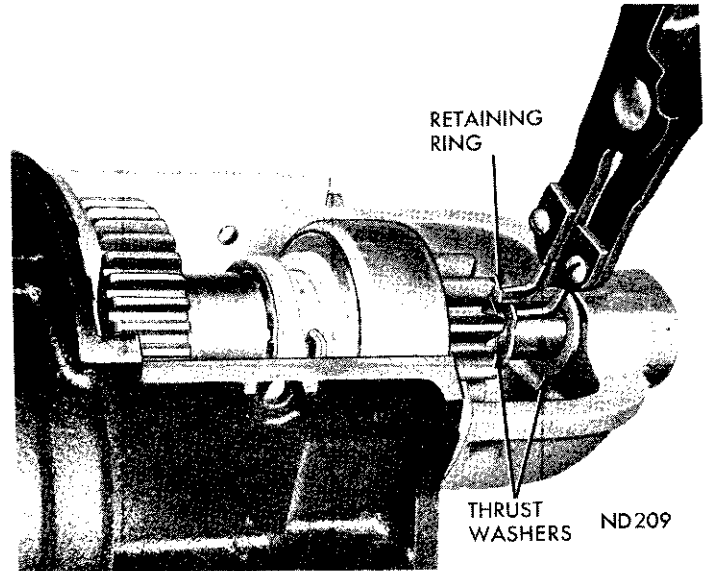

Fig. 7—Removing or Installing Piston Shaft Retainer Ring
(16) Release retainer ring at front of pinion shaft (Fig. 7). **Do not spread retainer ring any greater than outside diameter of pinion shaft otherwise lock ring can be damaged.**